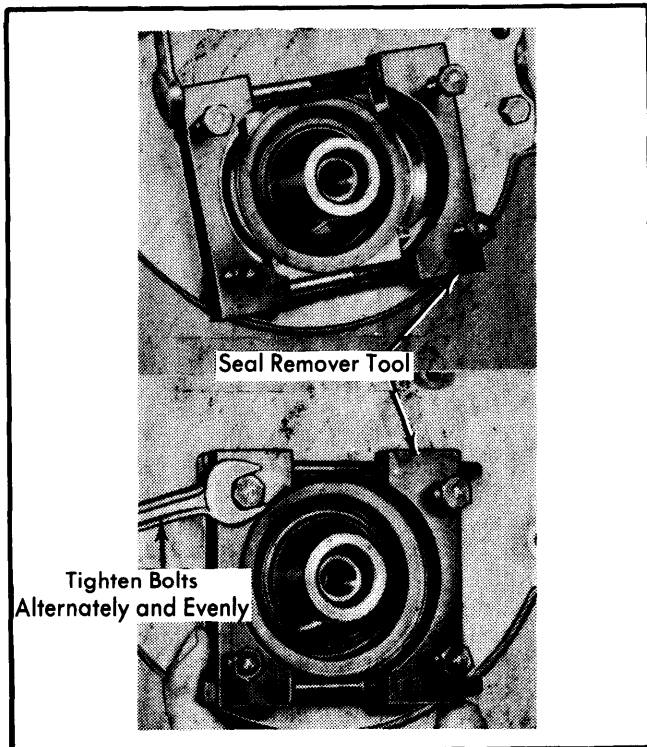

Fig. 16 Removing Front Cover Oil Seal
2) Remove vibration damper bolt. Pull off damper with a suitable puller. Attach a suitable seal remover tool (T70P-6B070-B) to lip of front seal. Tighten puller bolts and remove seal (see Fig. 16).